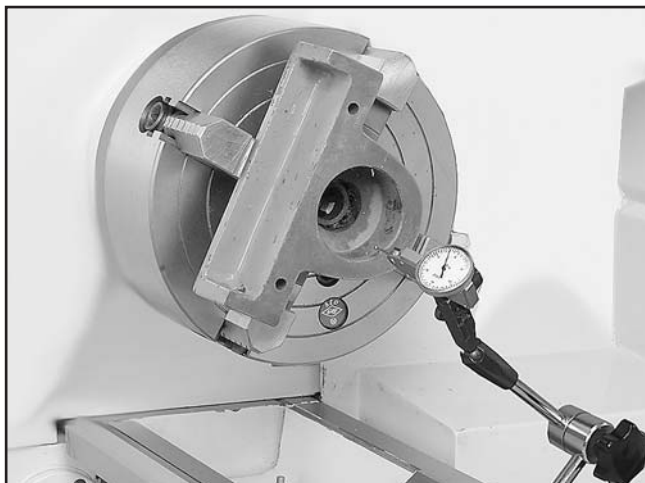

Figure 35. Example of aligning workpiece with a test indicator on a 4-jaw chuck.
6. Make accurate adjustments to the workpiece position by using a test indicator and adjusting the jaws until the workpiece is precisely aligned (see **Figure 35** for an example).